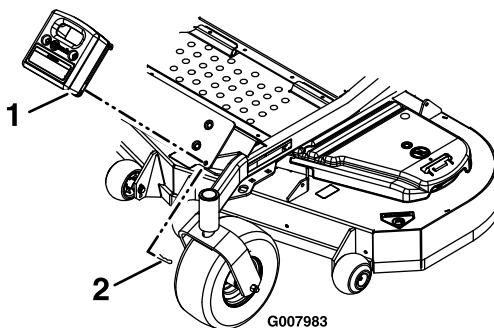

Figure 8
2. Install the removable weights. Hook the toe board weight assemblies over the top of the weight mounting plate and secure with two hairpins (see Figure 8).